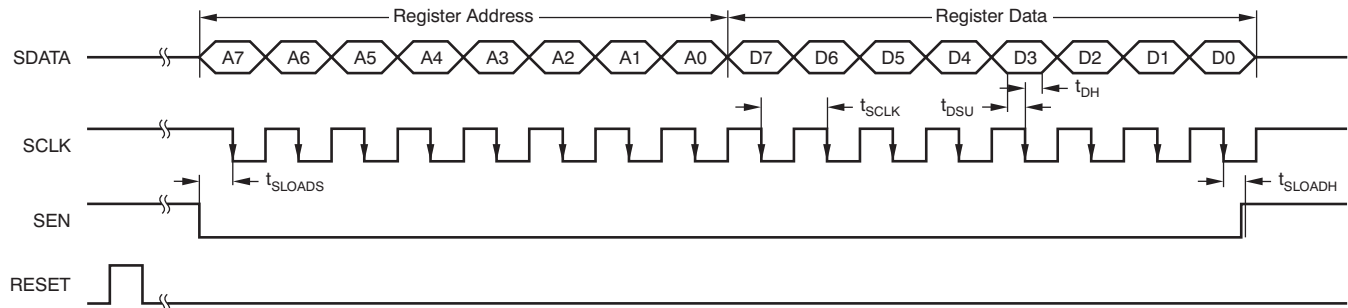

Figure 8. Serial Interface Timing
1. Either through hardware reset by applying a high pulse on RESET pin (of width greater than 10ns), as shown in Figure 8; or